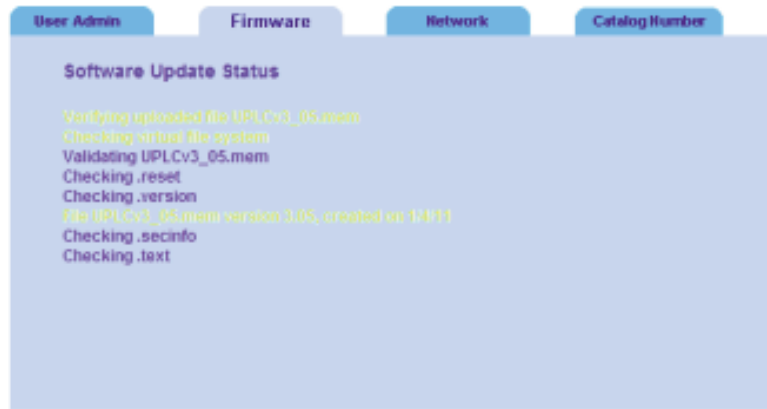

Figure G-1
8. If the unit does not see new code as shown in Figure 1, and you have waited at least 10 minutes, cycle the power and try again. Once the unit sees the new code, it will check several files (as shown in Figure G-1) and prepare the unit for upgrading.